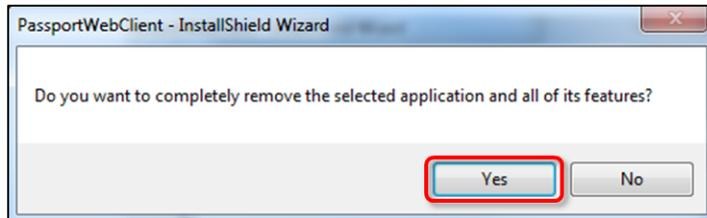

Figure 15: Confirming Scanner USB is disconnected
5. Click **Yes** to confirm. See Figure 15.